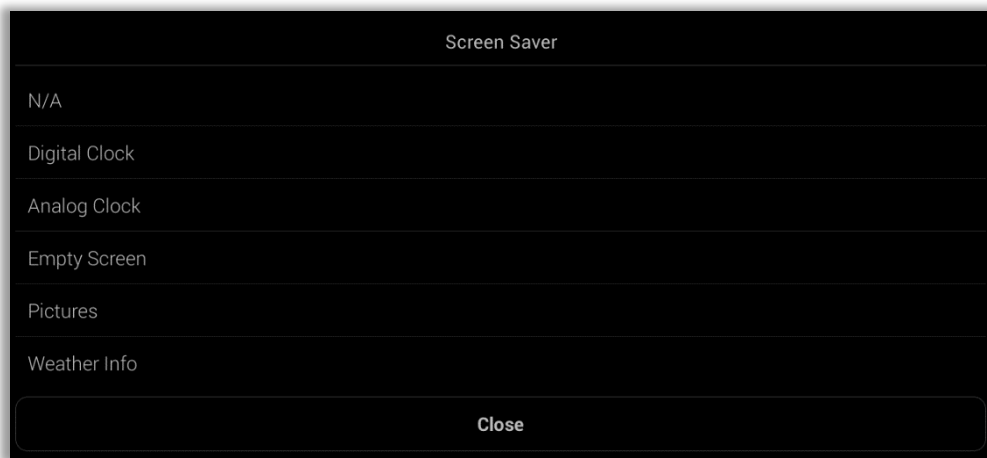

Fig. 66: Screen Saver List
- 2 By pressing this touch button, the screen saver type is set. After pressing the button, the screen saver type list in Figure 66 is displayed.